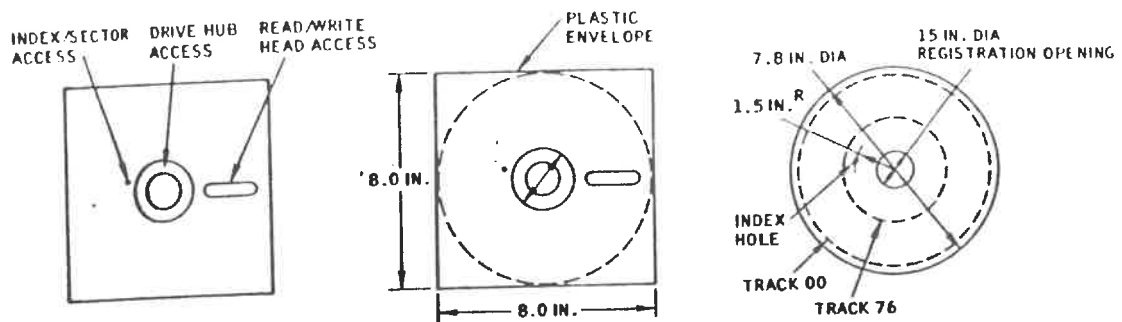

FIGURE 2-3. Flexible Disk Construction
2.2.4.1 Diskette Parameters. The recommended flexible disk is the IBM 3740 Diskette or equivalent (refer to Figure 2-3). Flexible disk characteristics are as follows: